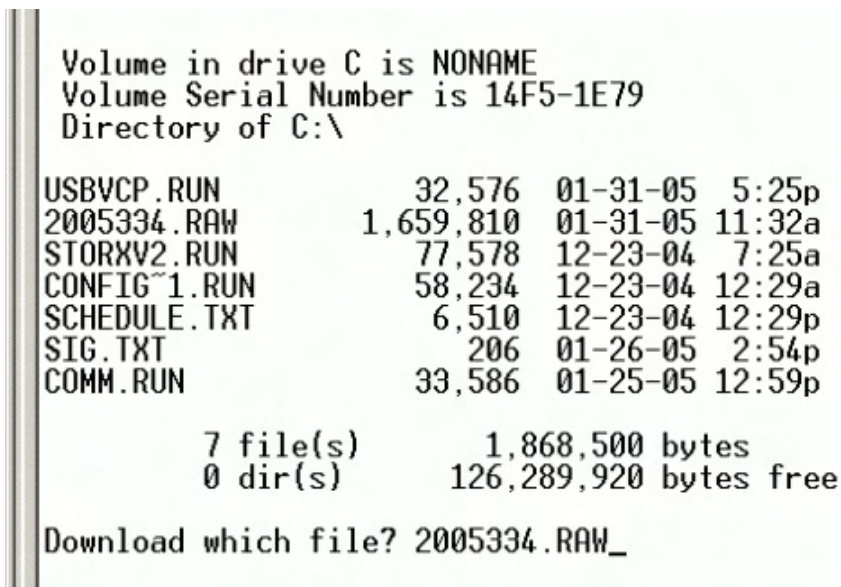

Figure 24 - USBVCP initiating a download
12. The STOR-X is now requesting the file(s) to download. In this example we'll download the large 2005334.RAW data file. In the USB port HyperTerminal window, type the name of the file to download (2005334.RAW) and then press enter as depicted in Figure 24: